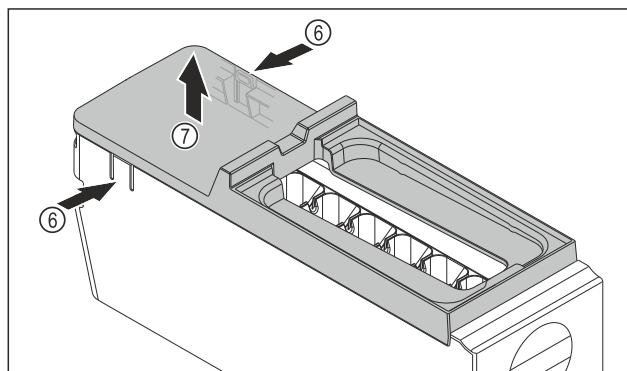

Fig. 125
- ▶ Removing the EasyTwist-Ice body cover: Push the tabs Fig. 125 (6) on both sides of the EasyTwist-Ice body with one hand.
- ▶ Use the other hand to remove the cover Fig. 125 (7) upwards.